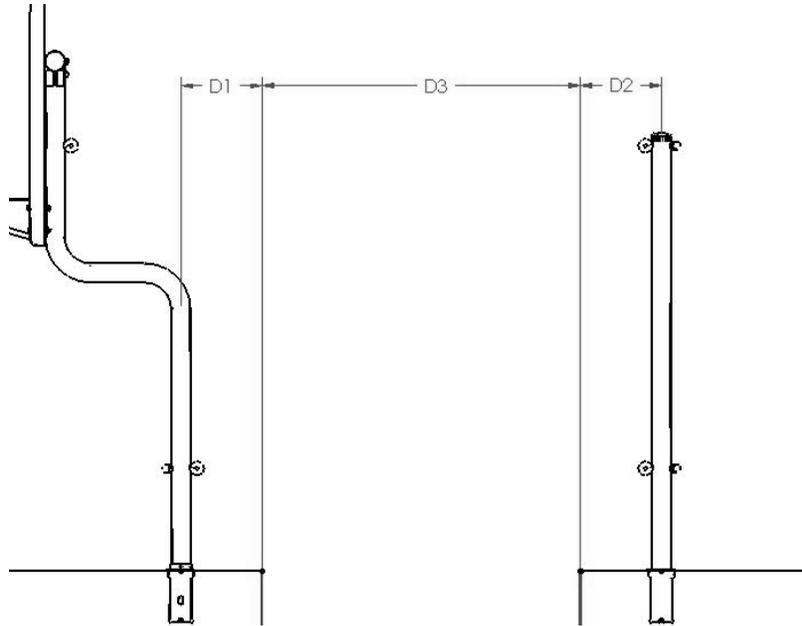

FIGURE 10
- 1) The Volleyball/Basketball game combination requires the installation of two AS-100P anchor sockets into the pool deck. Install the anchors in the pool deck at a location where the game will be played in shallow water depths. Figure 10 shows the layout for positioning the anchor sockets. Bond anchors as required.